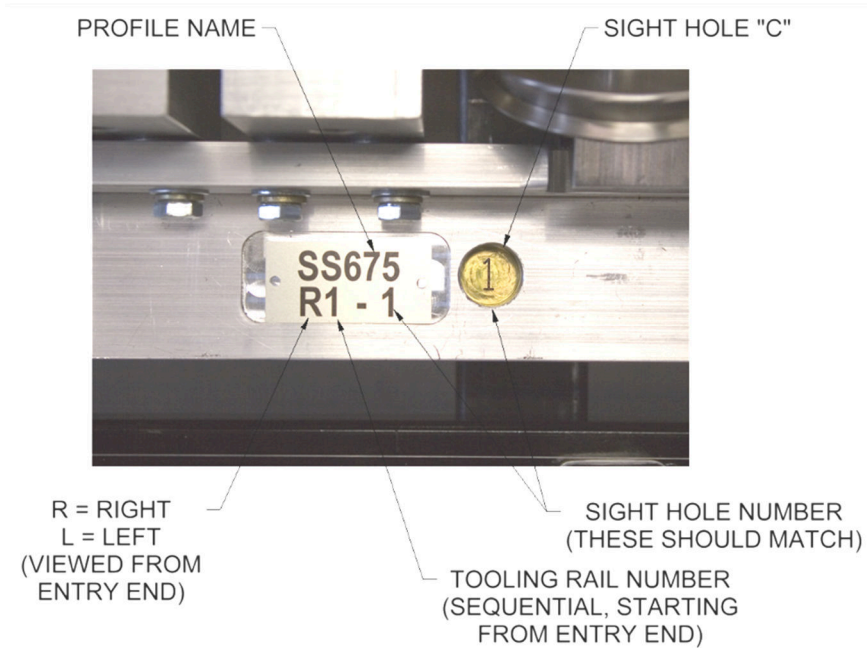
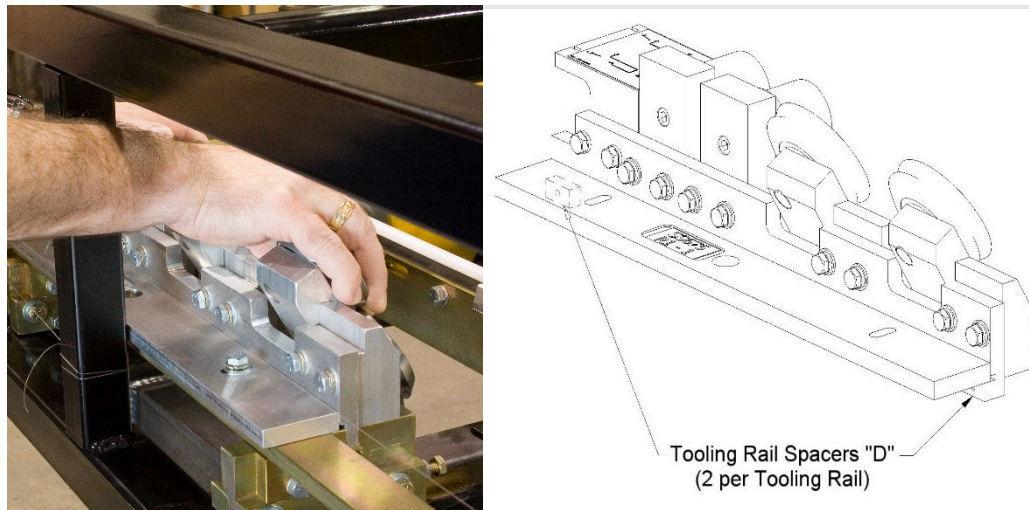

Figure 69: Tooling Rail Identification
Figure 70: R1 Tooling Rail Spacers
9. Find the R1 Tooling Rail and set it flat on top of the Right Side Fixed Mount Rail #1 making sure the correct number shows in Sight Hole “C” (Figure 69). Thread the two mounting bolts into the slots of the rail and finger-tighten them. Pull the Tooling Rail assembly toward the outside of the machine until the two Tooling Rail Spacers “D” (Figure 70) contact the face of the mounting rail. Hold it in place while tightening the mounting bolts.